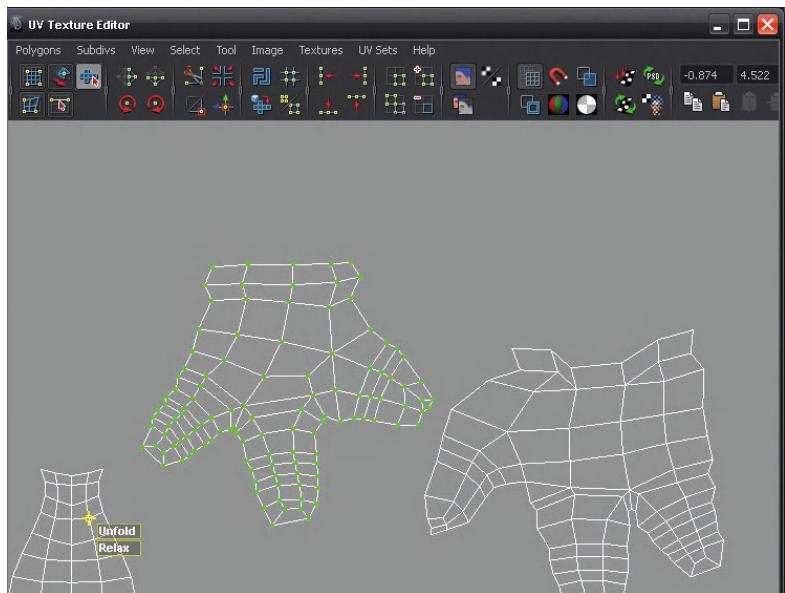

FIG 5.52 Mapping the hands with two planar projections.
Step 29: UV Map the hands. Do this by selecting the faces of the hand that are the palm and Planar Map them. Then do the same for the top of the hand. Be sure both of these projections are in a good place to see them in the UV Texture Editor and use the Smooth UVs Unfold to unfold them into a usable shell (Fig. 5.52).